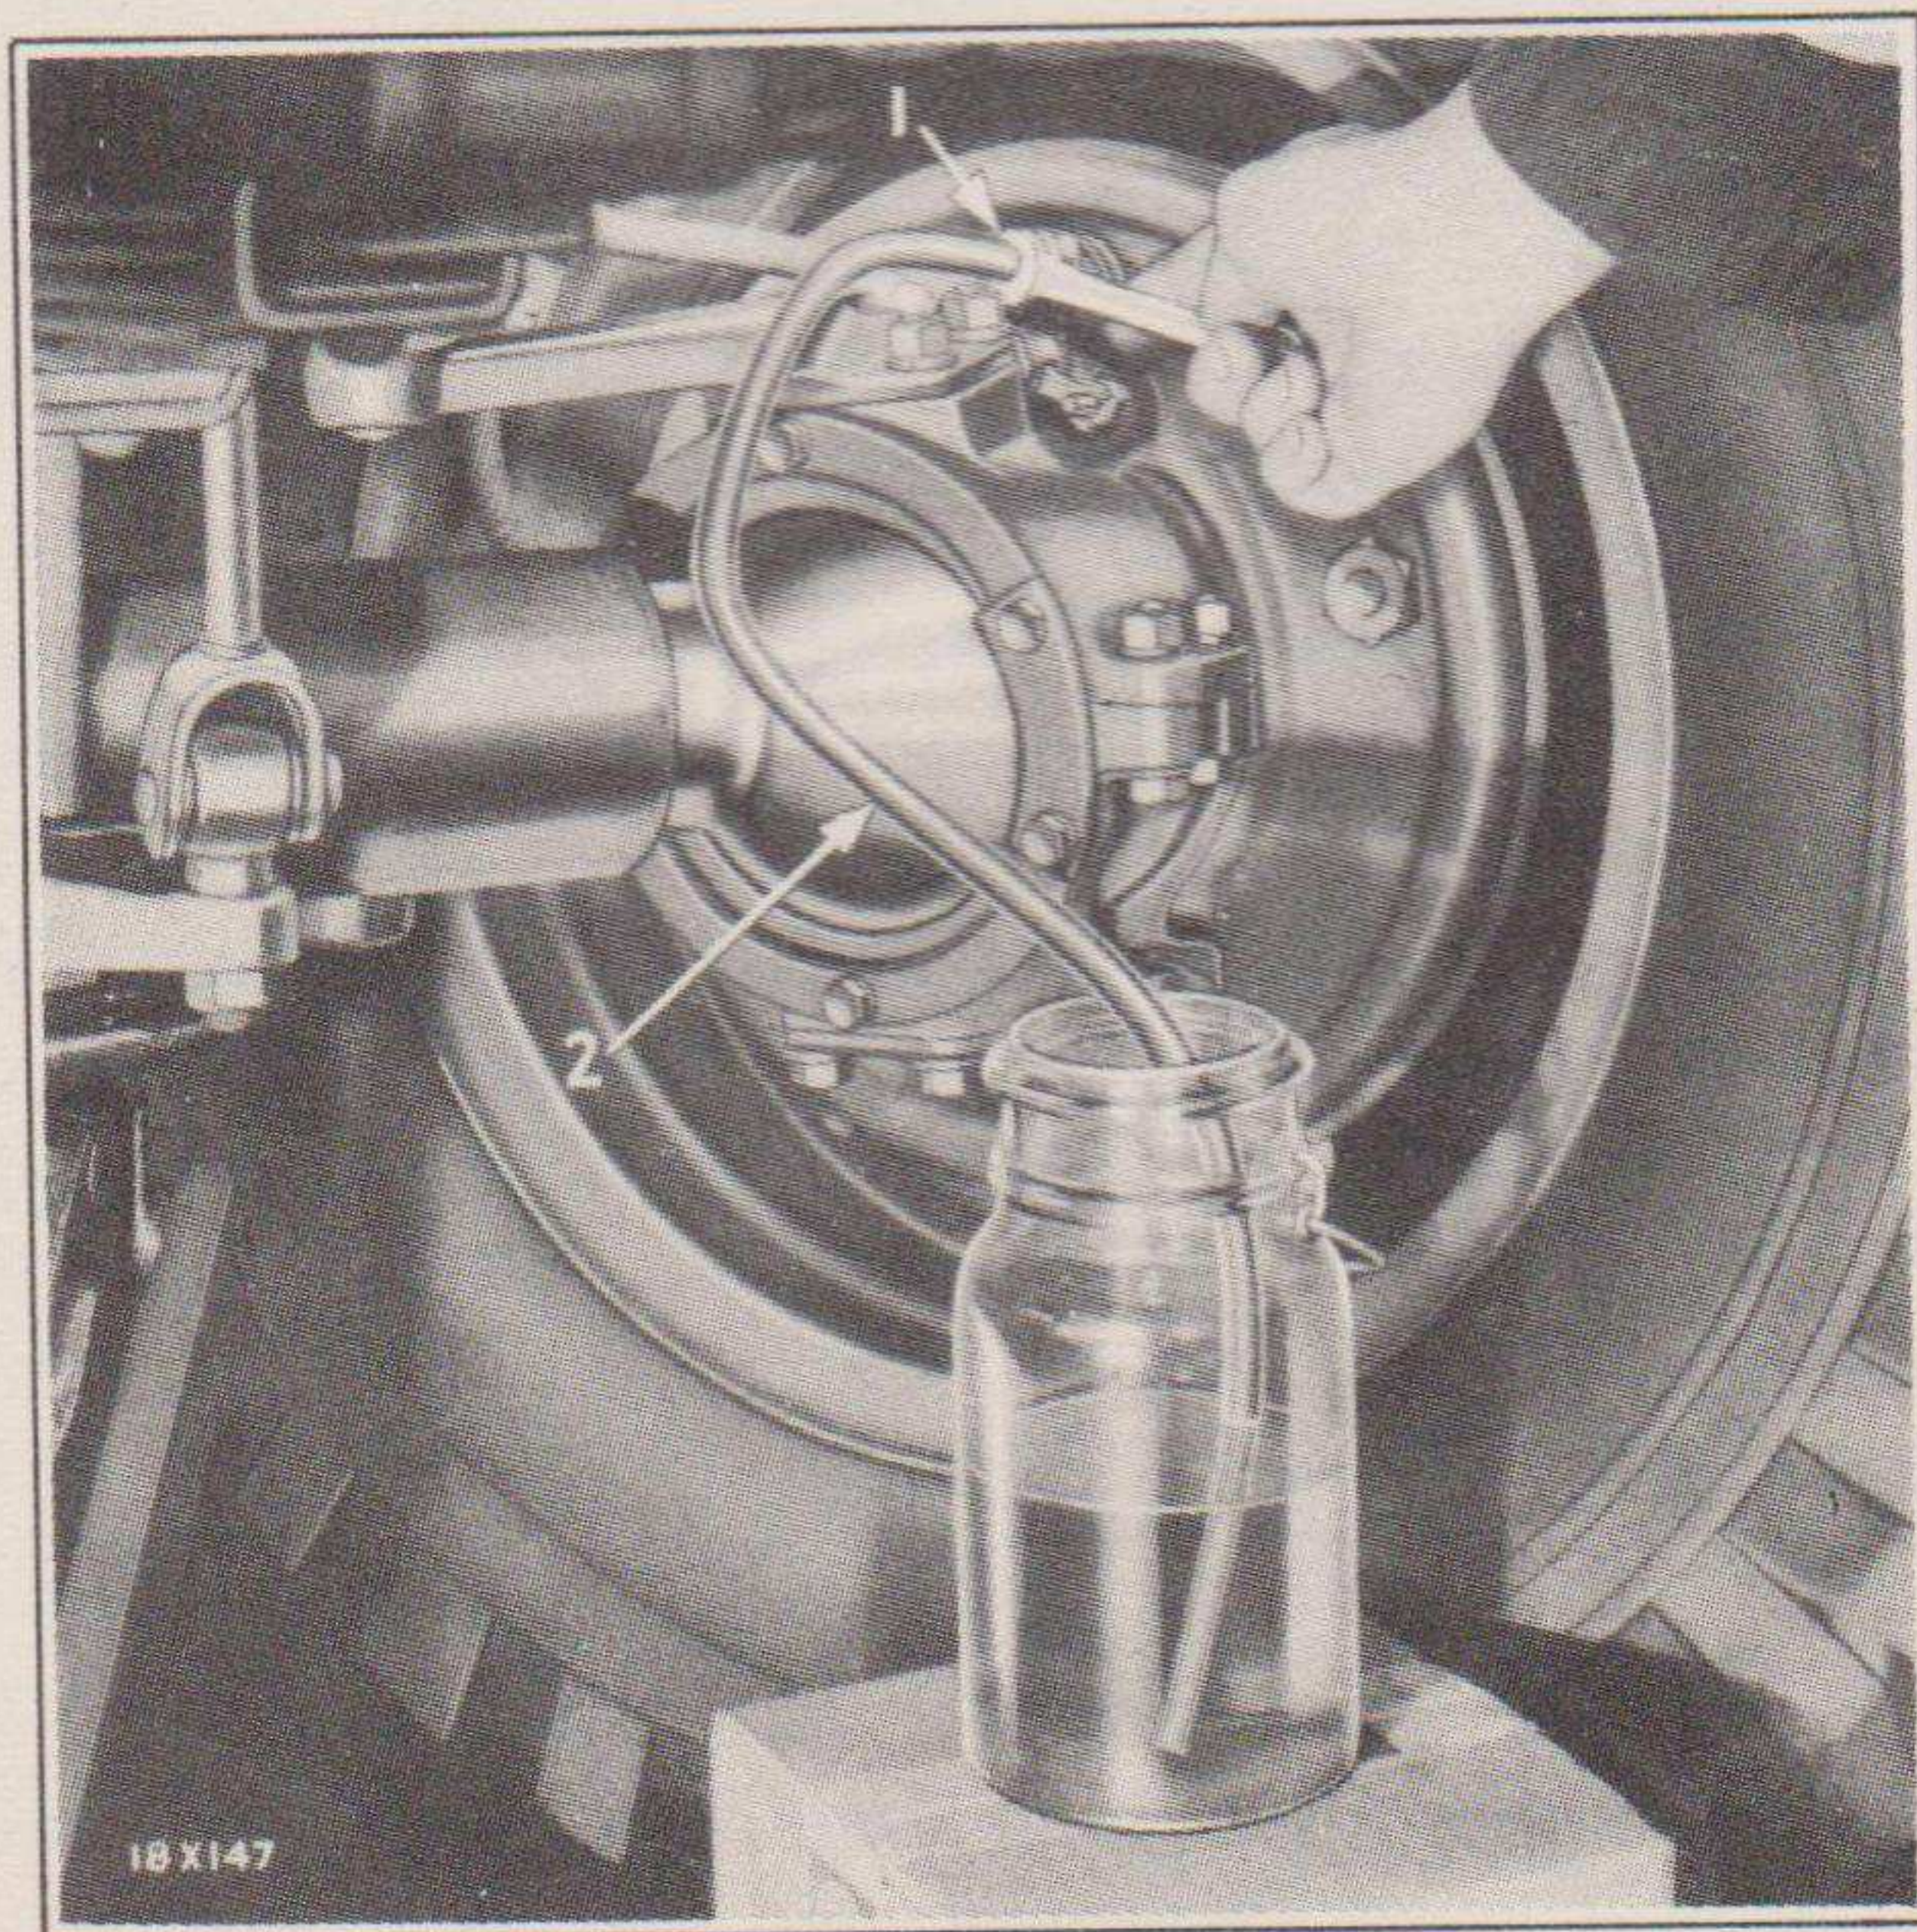

Fig. 78—Bleeding Brake Lines
- (a) Fill the reservoir with fresh brake fluid and attach a short length of rubber hose to the bleeder screw after removing the cap screw in the center of the wheel cylinder where it protrudes through the brake support. See Fig. 78.